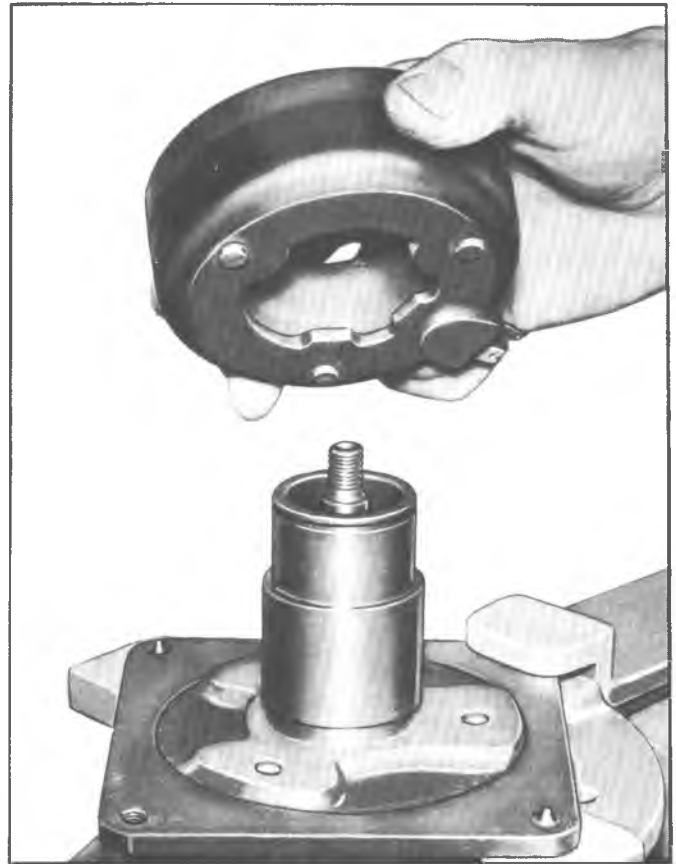

Fig. 9--Installing Coil Housing
1. Rotate the coil housing to the correct position as indicated by the scribe marks and the location of the electrical terminals and fit into place (fig. 9).